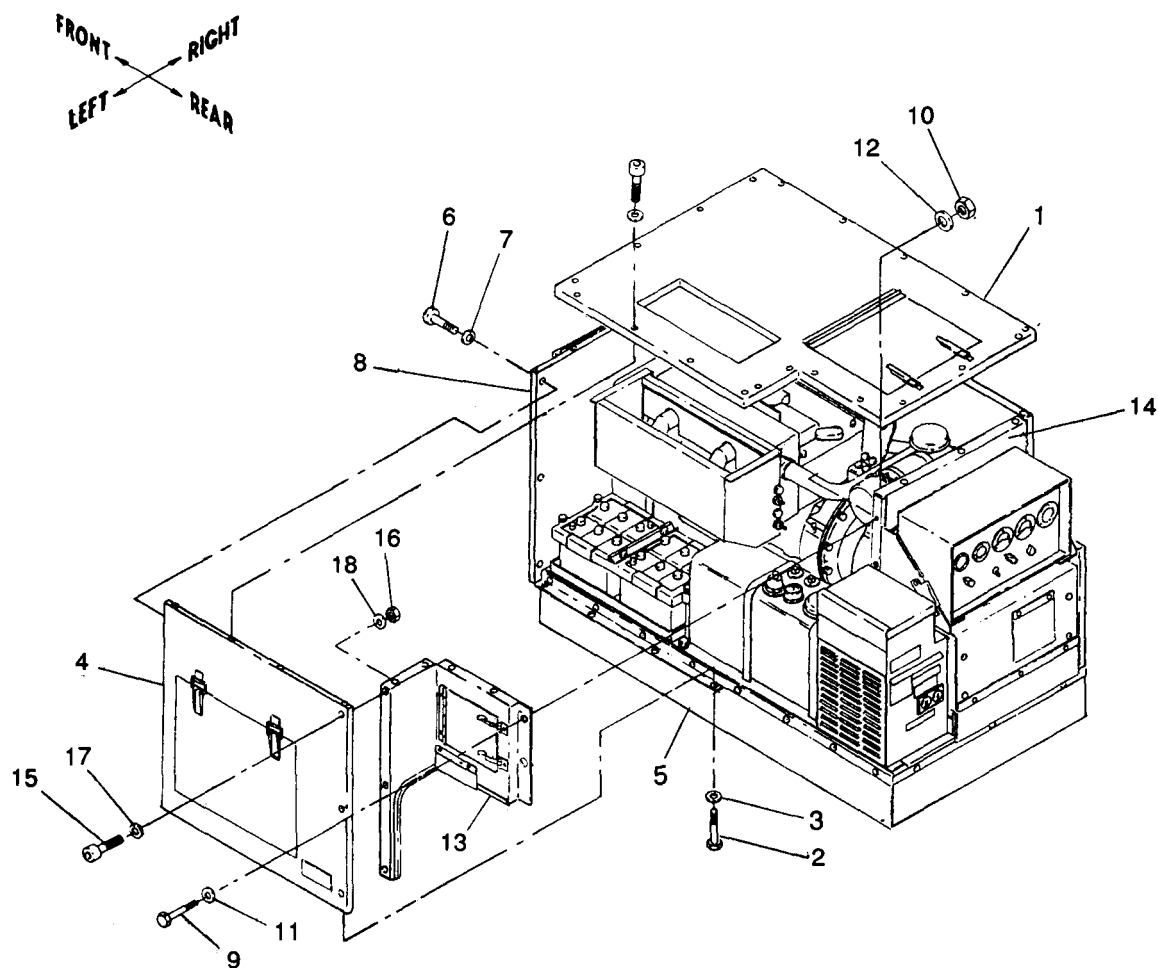

Figure 5-4. Left Panel Assembly and Side Closure Assembly,
a. Removal. See figure 5-4. Remove left panel assembly with side closure assembly from top panel, front panel, left support and rear closure assemblies as follows:
(1) Remove top panel assembly (1) as described in paragraph 5-4.
(2) Remove four screws (2) and washers (3) securing left panel assembly (4) to left support assembly (5).
(3) Remove three screws (6) and washers (7) securing left panel assembly (4) to front panel assembly (8).
(4) Remove two screws (9) and locknuts (10), and four washers (11 and 12) securing side closure assembly (13) to rear closure assembly (14) and lift off left panel assembly (4) with side closure assembly (13) .
(5) Remove three screws (15) and locknuts (16), six washers (17 and 18) securing side closure assembly (13) left panel assembly (4).
b. Installation. See figure 5-4. Install left panel with side closure assembly to top panel, front panel, left support and rear closure assemblies as follows:
(1) Install three screws (15) and locknuts (16) and six washers (17 and 18) securing side closure assembly (13) to left panel assembly (4).
(2) Torque screws (15) to 16 \pm 2 ft-lbs dry.
(3) Position left panel assembly (4) with side closure assembly (13) on generator and install two screws (9) and locknuts (10) and four washers (11 and 12) securing side closure assembly (13) to rear closure assembly (14).
(4) Torque screws (9) to 16 \pm 2 in.-lbs dry.
(5) Install three screws (6) and washers (7) securing left panel assembly (4) to front panel assembly (8).
(6) Torque screws (6) to 18 \pm 2 in.-lbs dry.
(7) Install four screws (2) and washers (3) securing left panel assembly (4) to left support assembly (5).
(8) Torque screws (2) to 18 \pm 2 in.-lbs dry.
(9) Install top panel assembly (1) as described in paragraph 5-4.